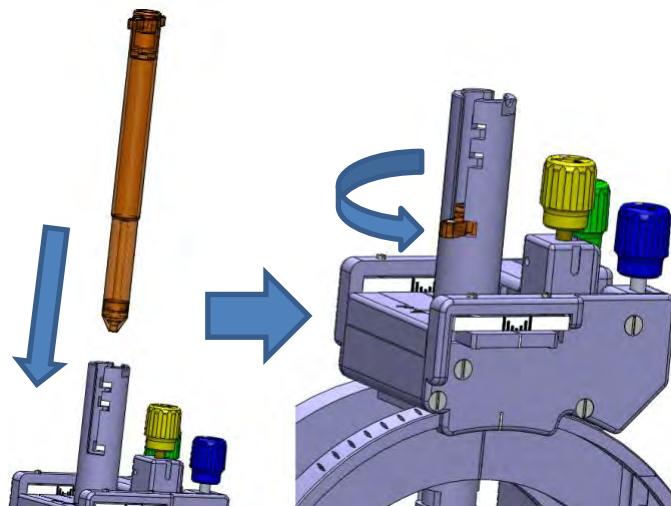

Figure 14: Inserting a Device Guide
5. Insert the desired Device Guide into the TC Support so that the tabs on the Device Guide Fit into the long vertical slot on the TC Support. Then twist the Device Guide so the tabs engage the slots to lock it in position. See Figure 14.